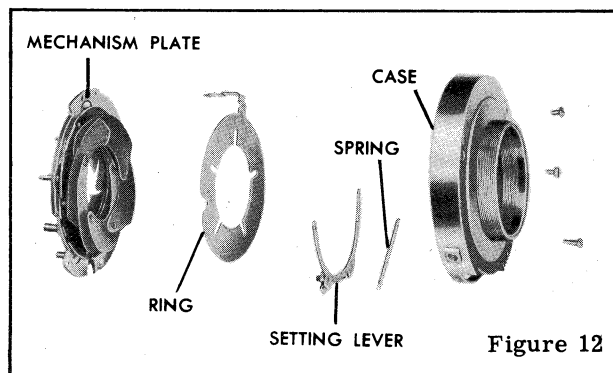
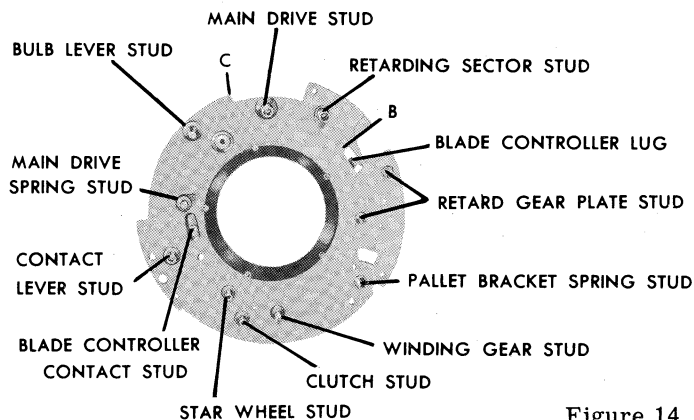
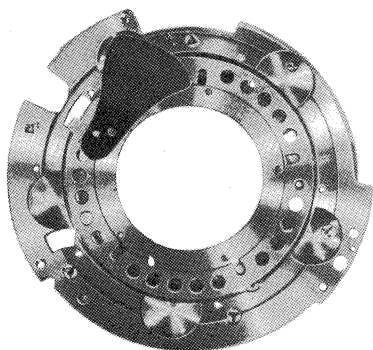

Figure 12
Figure 14
Figure 15
8. Release the shutter and at the same time retard its opening action by placing one finger against the shutter **SETTING LEVER**, figure 12. Observe whether the **BLADE CONTROLLER CONTACT STUD**, figure 14, makes slight contact with the contact spring stud before the blades are fully open. If the spring does not touch the stud, bend the end of the spring toward the stud.
8. Cock and release the shutter and at the same time retard its opening action by placing one finger against the shutter **SETTING LEVER**, figure 12. Observe whether the **BLADE CONTROLLER CONTACT STUD**, figure 14, makes slight contact with the contact spring when the blades are fully open. If the spring does not touch the stud, bend the end of the spring toward the stud.
14. MECHANISM PLATE, figure 12.
3. **BLADE WITH DOUBLE BLADE BUSHING** and stud, with the hole in the blade over the stud on the mechanism plate near the **BLADE CONTROLLER LUG**, figure 14. Refer to figure 15 for positioning of the shutter blade,
8. The shutter **CASE**, figure 12, diaphragm **RING**, and the **SETTING LEVER** with stop stud should be thoroughly cleaned. Apply a thin film of grease (Texaco Unitemp-RCX149 Grease) in the recess in the case occupied by the setting lever. Then wipe this area lightly with a clean cloth.